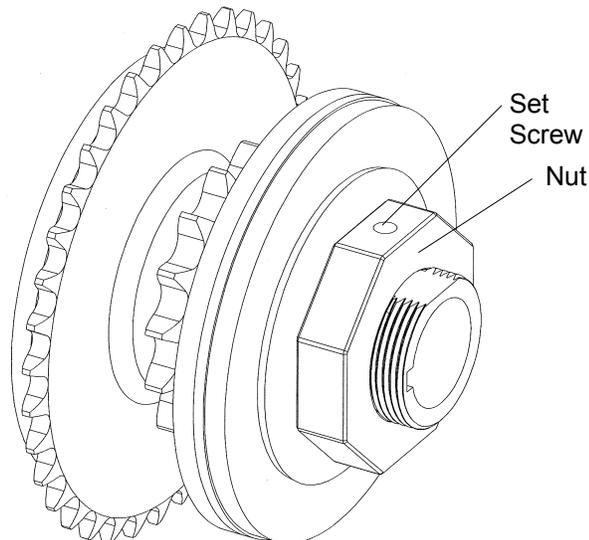

Figure 41 - Clutch Adjustment
1. Loosen clutch set screw, refer to Figure 41.